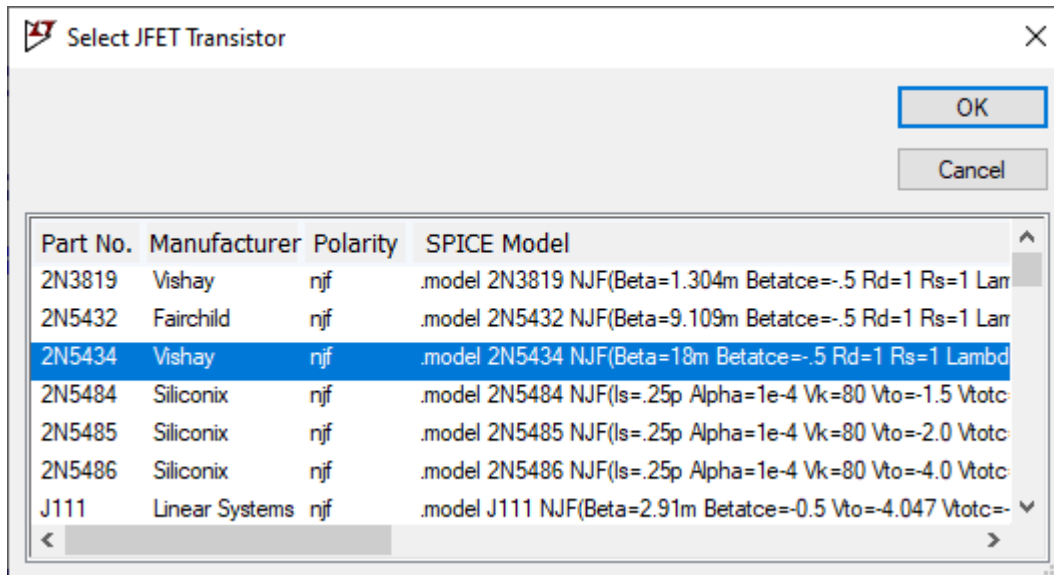

Fig. 2. JFET transistor model
3. Right click on the transistor, pick **Pick New JFET**, then choose the following transistor model 2N5434 as illustrated in Fig. 2.